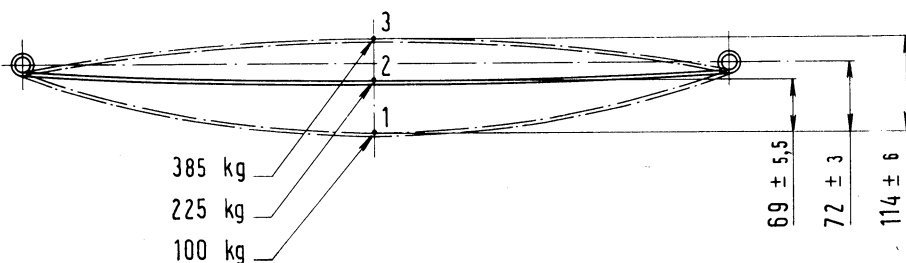

Fig. 158. - Semi-elliptic spring main leaf oscillation diagram and elastic stress data for checking spring characteristics.
- b) Compare the spring test data with those in the chart on foot of page and fig. 158.